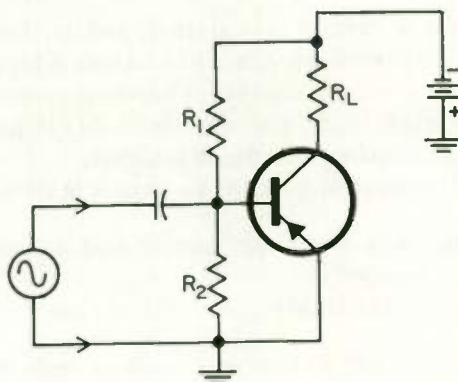

Fig. E.1
1. In Fig. E.1 the purpose of R_1 and R_2 is to
2. In Fig. E.1, the base of the transistor is maintained at _____ potential with respect to the emitter of the transistor.
3. In Fig. E.1 the purpose of R_L is to provide